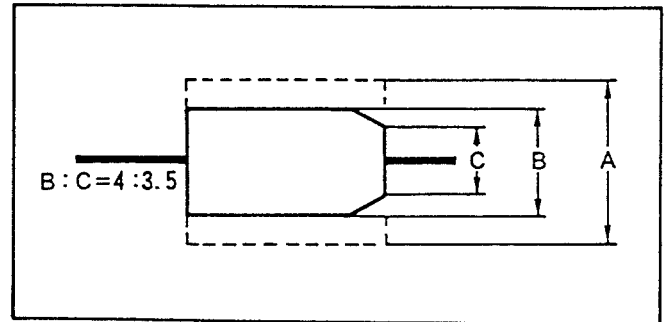

Fig. II-81
- (5) Slightly turn the No. 6 guide clockwise so that  $B:C = 4:3.5$ . (See Fig. II-81.)